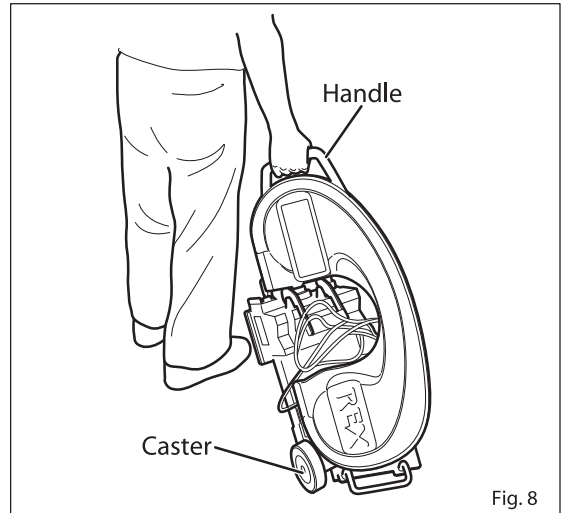

Fig. 8
## 1. Transport and Setting up (Figs. 8 & 9)
(1) The frame is locked before the product is packed. Hold up the handle. The casters will contact the ground, allowing you to roll the unit along. (Fig. 8)